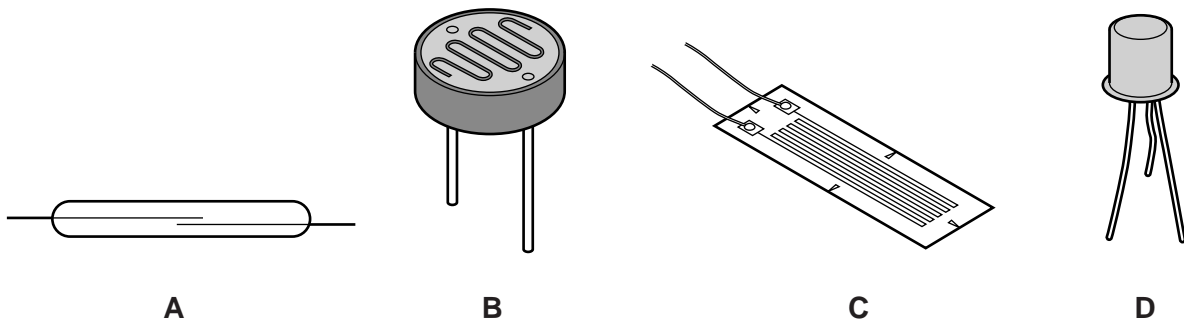

Fig. 3
- 5 Fig. 3 shows four electronic components.